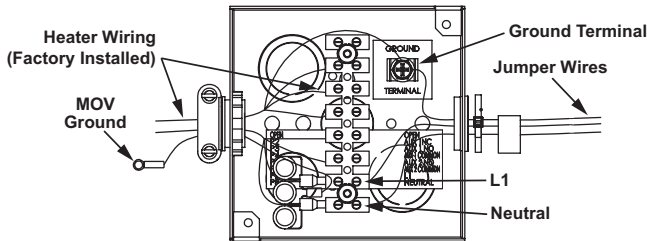

Figure 49
5. Connect the ground wire from the power supply to the green jumper wire or the ground terminal location inside of the junction box located on top of the water heater. If the green jumper wire is used, make the connection inside of the junction box with a properly sized wire nut and wrap electrical tape around the wire nut and wire end. See junction box Figure 49 and wiring diagram Figure 58 on page 66.